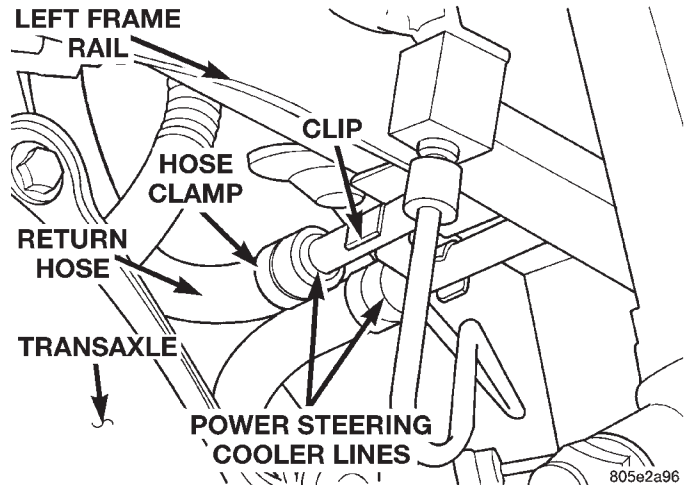

Fig. 20 Power Steering Hose Connections At Cooler Lines
(4) Lower the front suspension crossmember far enough to gain access to the high and low pressure ports on the steering gear.
(5) Disconnect power steering fluid return hose at power steering cooler line (Fig. 20). Drain power steering fluid from hose.
(2) Using a lint free towel, wipe clean all open power steering hose ends, and the power steering gear port.
(3) Install a new O-ring on the power steering return hose to steering gear fitting.
(4) Lubricate O-ring using fresh clean power steering fluid.
(5) Install the power steering return hose, on the cooler lines (Fig. 20).